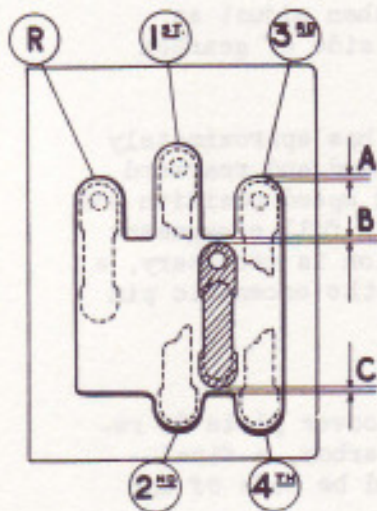

FIG. 14. PLAN VIEW OF GATE.
- b) Next check that there is a small gap at 'A', Fig. 14, when the change gear lever is moved into each of the in-gear positions i.e. reverse, 1st, 2nd, 3rd and 4th. If there is a difference between the front and rear gaps, the gate can be pivoted forwards or rearwards by slackening off the two 3/8" (B.S.F.) nuts on the inner side of the gate bracket. This should also give a reasonably equal clearance at gaps 'B' and 'C'.